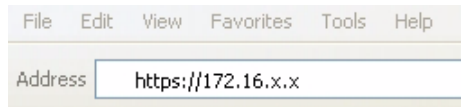

FIGURE 7-2 Opening a Session With a Web GUI
- To establish a connection to the ILOM SP web GUI, type the IP address of the ILOM SP in the browser locator box and press Enter. For example, if the IP address for your ILOM SP was 172.16.x.x, you would type it as shown in FIGURE 7-2. The first GUI page prompts you for the default user name, **root**, and the default password, **changeme**.
See the example in FIGURE 7-2.